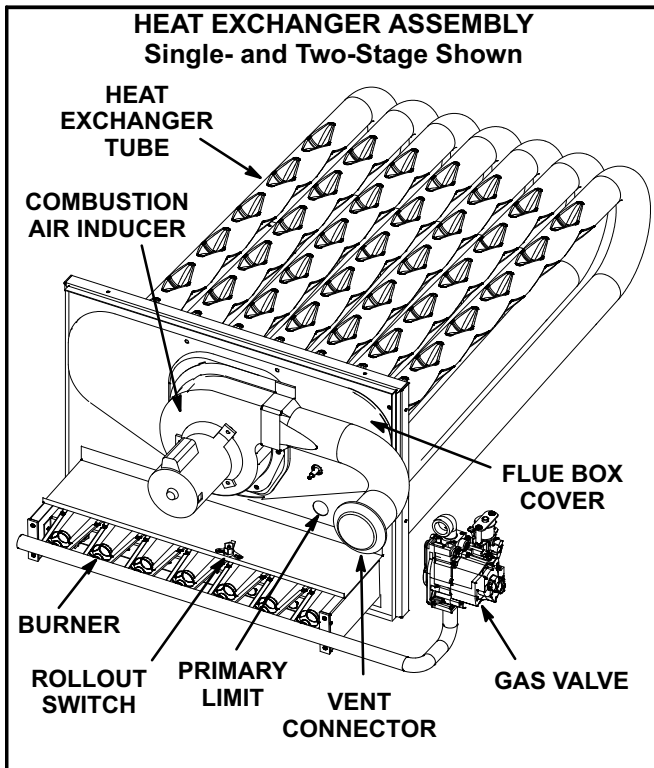

FIGURE 36
- 4- Remove and retain screws securing combustion air inducer to flue box. Remove vent connector. See figure 36.